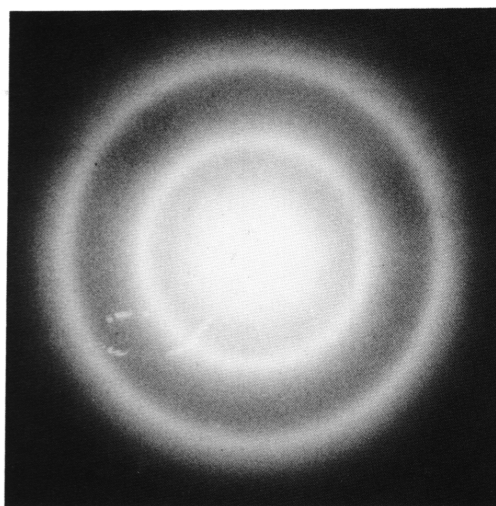

Figure 2: An example of an interference pattern of concentric circles, known as Debye-Scherrer rings, on the phosphorescent layer of a glass electron beam tube.
Figure 1: Experimental equipment for the Electron Diffraction Experiment. (1) is the high voltage power supply, (2) provides the voltages to the electrodes within the electron diffraction tube (3), and (4) is the plastic Vernier callipers you will use to measure the diameter of the diffractions rings. See Figure 2 for more information on the electron diffraction tube.
The main action happens within the electron beam tube (3). Electrons are ejected from an anode (a Wehnelt cylinder) and then accelerated in the electron beam tube through a high potential difference, gaining kinetic energy before being scattered from the target. The target is a polycrystalline layer of graphite powder on a copper mesh. Graphite behaves as a two-dimensional diffraction grating for the electron beam. The electrons are diffracted by the graphite crystals and demonstrate their wave nature by generating an interference pattern of concentric circles, known as Debye-Scherrer rings, on the phosphorescent layer of the glass tube (see Figure 2).